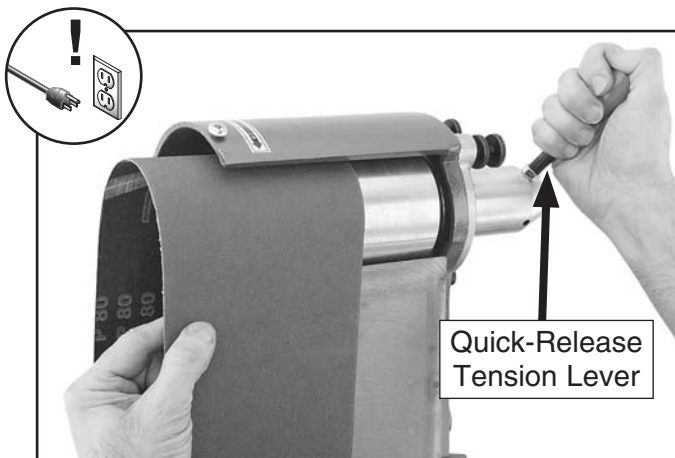

Figure 47. Removing the sanding belt.
2. Pull the quick-release tension lever down, then remove the sanding belt, as shown in **Figure 47**.